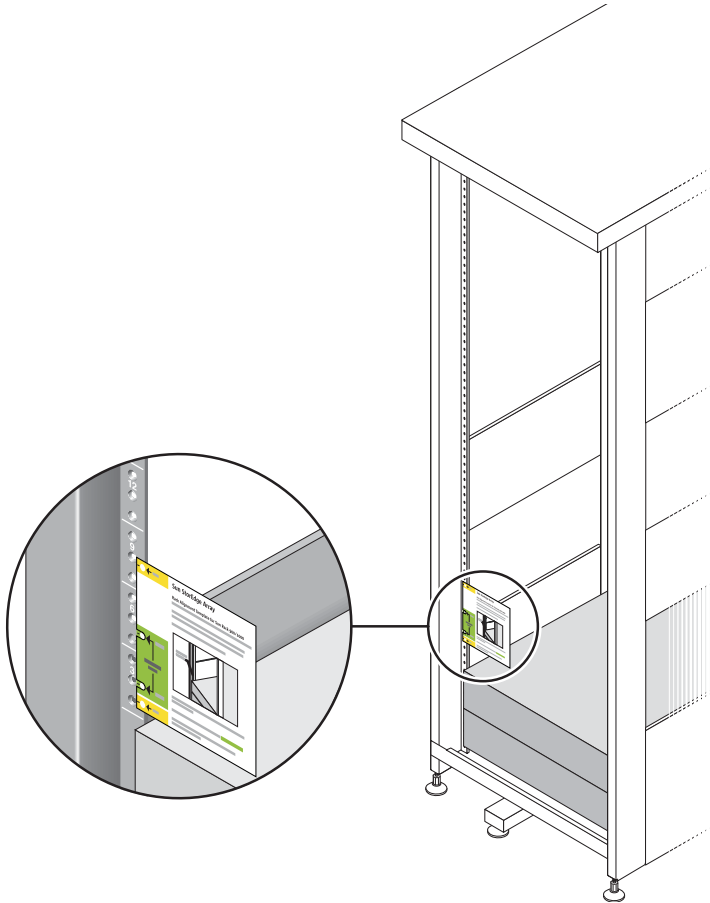

FIGURE 2-8 Positioning the Rack Alignment Template
2. **Locate the proper mounting holes by placing the rack alignment template for the Sun Rack 900/1000 cabinet over the front left cabinet rail (FIGURE 2-8).**